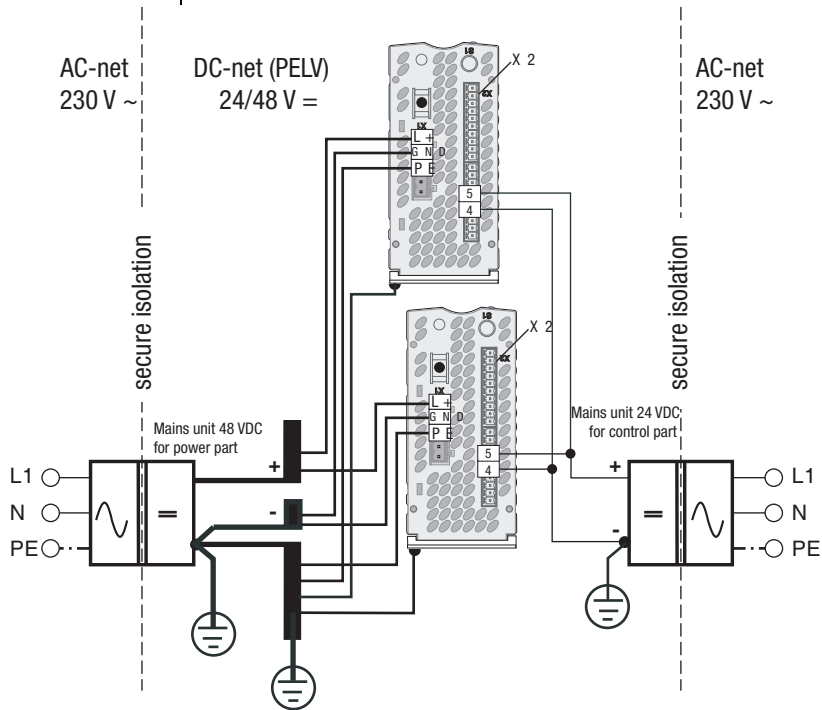

Fig. 3.3 Connection overview DC-mains supply
- At the supply terminal the (-) pole of the power supply units must be earthed as shown in Fig. 3.3.